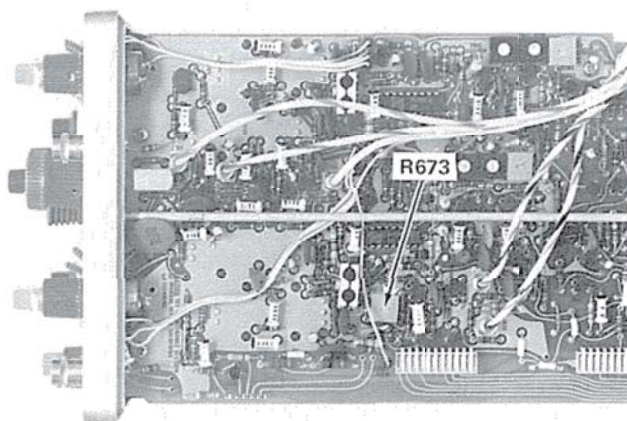

Fig. 5-22. Location of Trigger View Centering adjustment.
d. ADJUST—Trigger View Centering adjustment, R673 (see Fig. 5-22), so that the trace is at the center horizontal line.